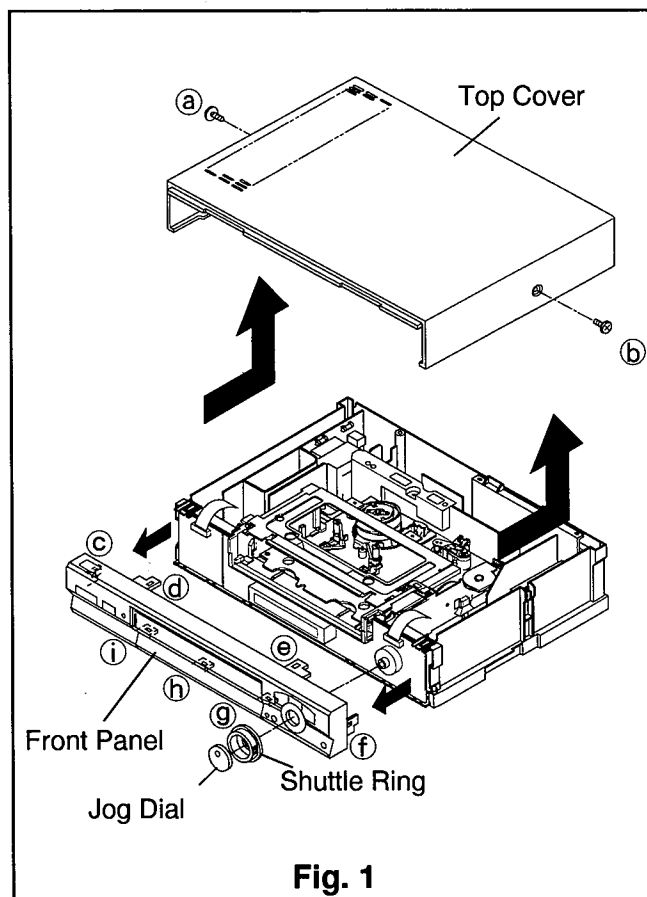

Fig. 1
The test sequence, with reference to the measuring circuit in Fig.1 is as follows:
- ① Remove the two Top Cover fastening screws (a) and (b) shown in Fig. 1 and remove the Top Cover in the direction shown by the arrows.
- ① Remove the Top Cover, refer to Para. 1.
- ② Unfasten seven catches (c~i), two on the top, two on the side, and three on the bottom, and remove the Front Panel in the direction shown by the arrows.